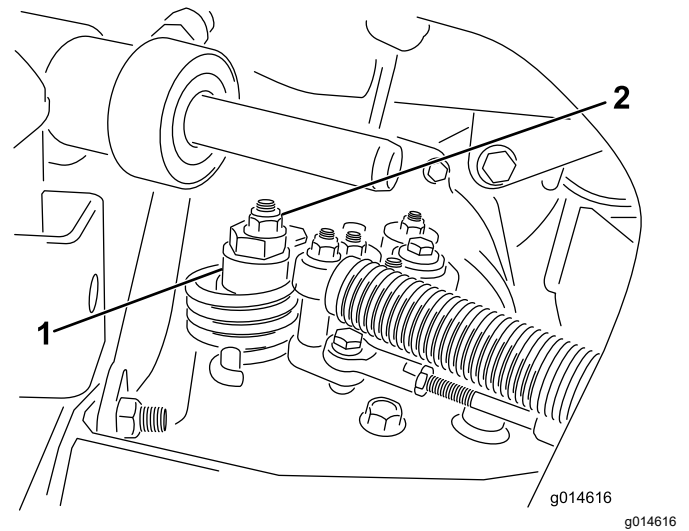

Figure 37
- A. Loosen the nut securing the eccentric to the top of the hydrostat (Figure 37).
- C. Rotate the eccentric until creep does not occur in either direction. When the wheel stops rotating, tighten the nut locking the eccentric and the adjustment (Figure 37). Verify the adjustment with the throttle in the SLOW and FAST position.